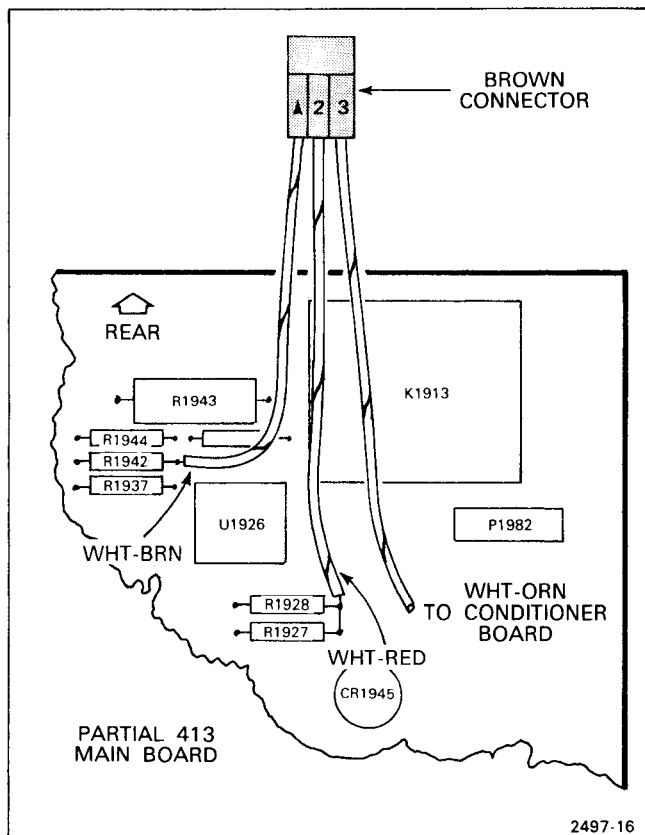

Figure 1-2. Adding wires to 413 Main board.
- a. Solder free end of white-brown wire to junction of R1937 and R1942. See Figure 1-2.
- b. Solder free end of white-red wire to junction of R1927 and R1928. See Figure 1-2.